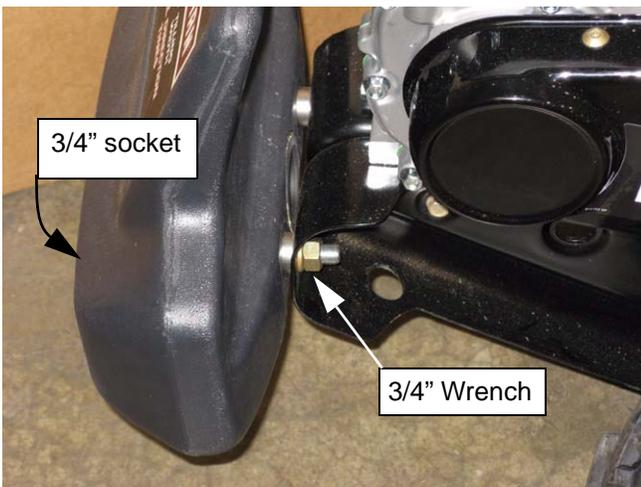

Figure 4.2
2. Remove the two nuts, bolts, and washers that hold the front counterweight to the gear case assembly using a pair of 3/4" wrenches. See Figure 4.2.